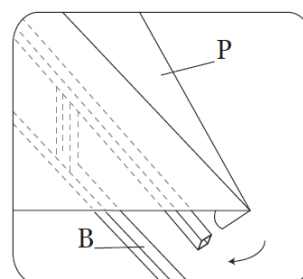

Figure 11
Step 1: Place the Main Canopy (Q) over the Roof. Leave the Main Canopy loose until Roof Vent Canopy has been installed. **Note:** Roof Vent Frame must remain exposed. Roof Vent Frame is welded to the top of Roof Supports (B).
Step 2: Place Roof Vent Canopy (P) over Roof Vent Frame and secure to the ends of the Roof Vent Frame. See Figure 11.